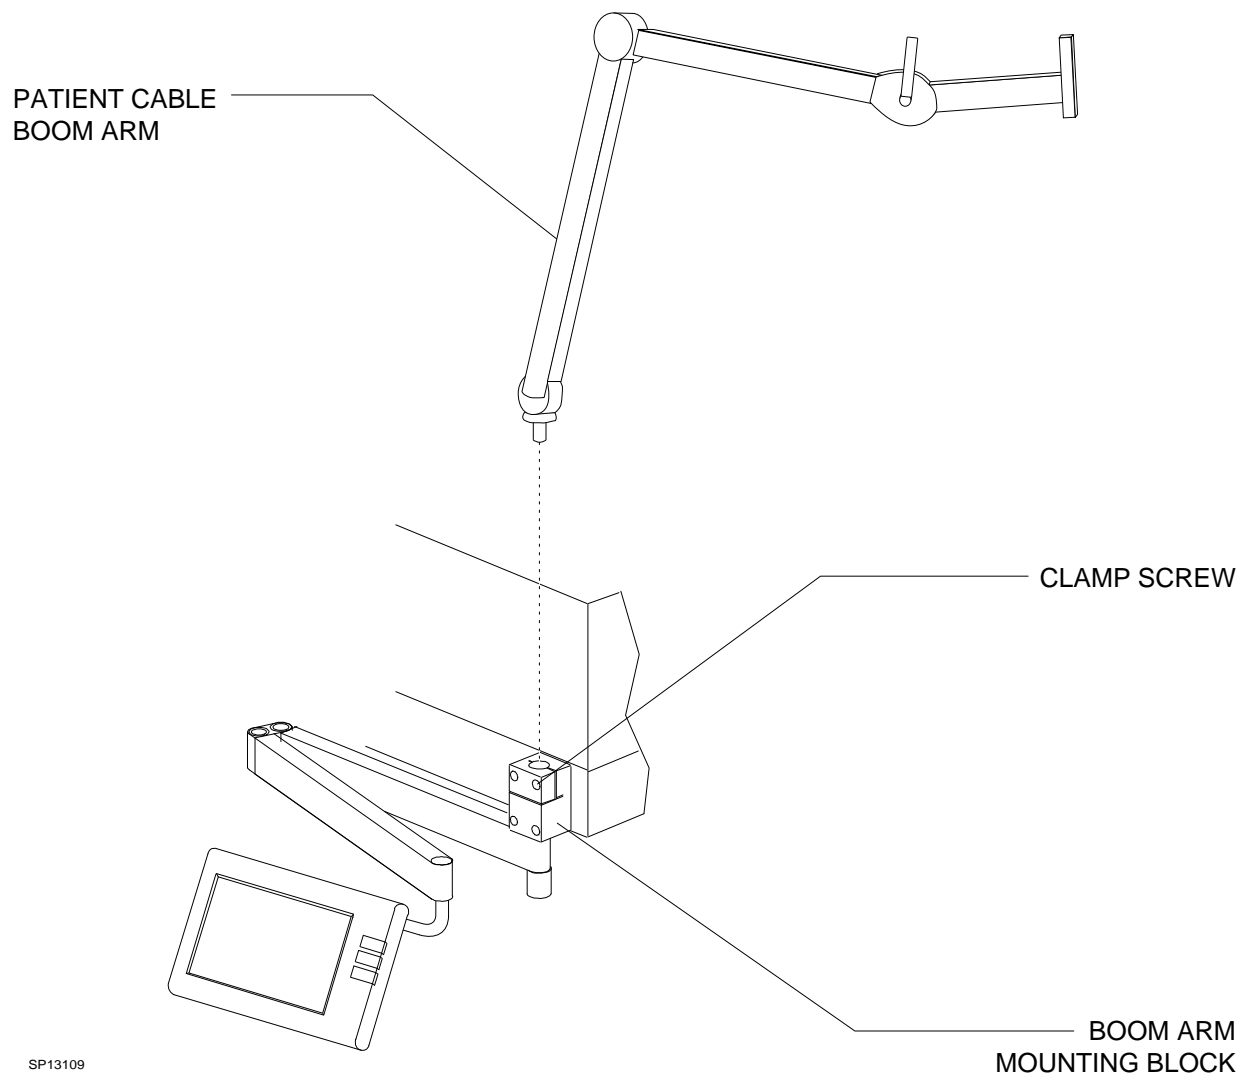

Figure 9: UPPER BOOM ARM REMOVAL
41. Loosen the clamp screw in the boom arm mounting block, and remove the patient cable (upper) boom arm. See Figure 9.